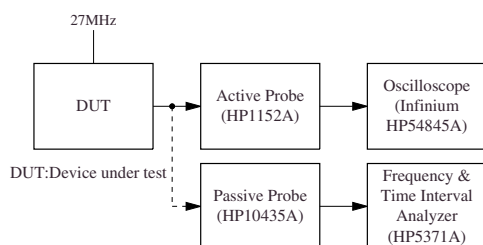

Figure 1. Measurement circuit 1
*2. Measured using the circuit shown in figure 1 on the NPC standard evaluation board.